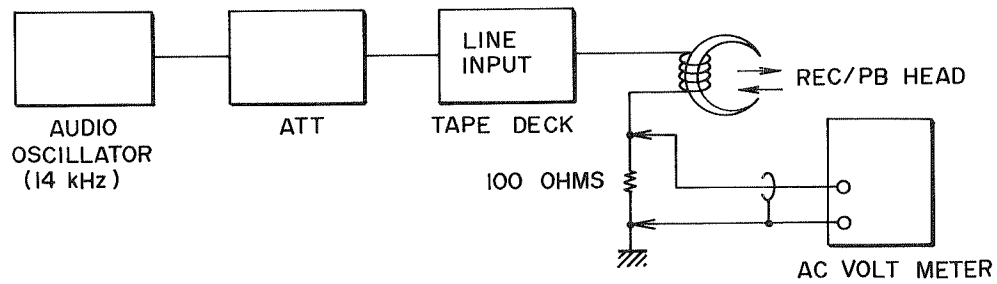

Fig. 11 Instruments Connection
5. Stop recording bias oscillator while making Rec Peaking Adjustment (Refer to Figs. 11,12).